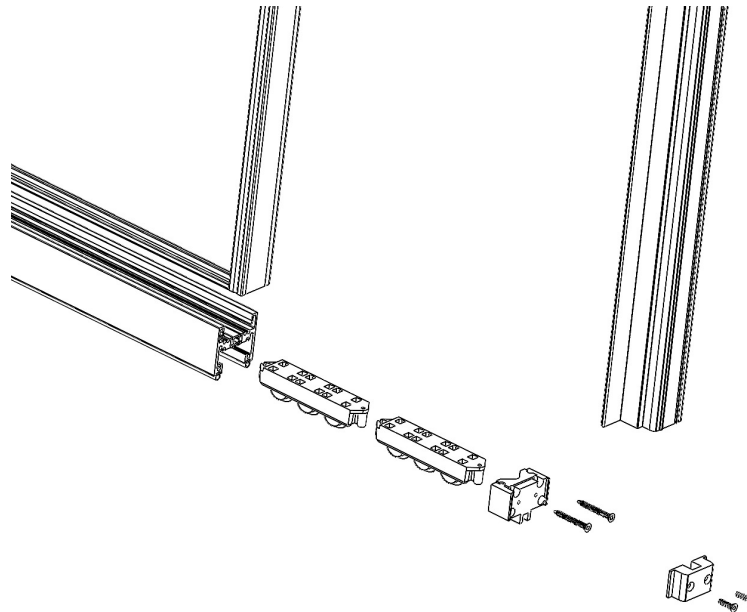

Figure 8
**Note: If a bi-parting door is requested, you will have one (1) active lead panel and one inactive lead panel. These panels are to be installed on the innermost track. The active panel will be installed to the left of center, as viewed from the exterior of the building. Fixed panels have one (1) interlock, no rollers and rest on the outermost track. Intermediate panels will have two (2) interlock stiles.**
**Example:** A 4' wide panel may take four (4) roller assemblies; two (2) per side. A 5' wide panel may take six (6) roller assemblies; (3) per side and so on. The number of roller assemblies supplied varies with each door system depending on configuration and specifications selected.
5. Determine the number of roller assemblies needed per panel and connect by sliding one (1) roller assembly onto the other. Continue this process for all required rollers. Once complete, slide the end sweep onto the roller assembly and set roller assemblies in front of panel.
6. Taking care not to scratch or shift the lead panel over. With a pry bar, lift the panel high enough to slide the roller assembly system into place. Ensure that all rollers rest onto the track cap and roll freely. (See Figure 8)